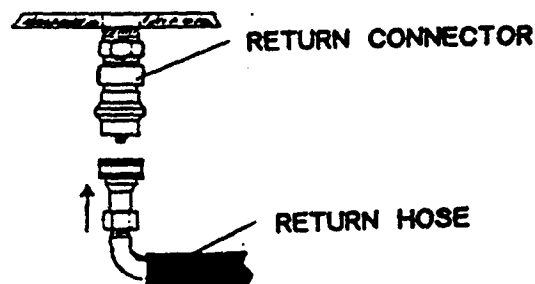

Figure 2-11. Attachment of Return Hose.
m. Attachment of return hose: Attach the return hose to the return connector (figure 2-11).